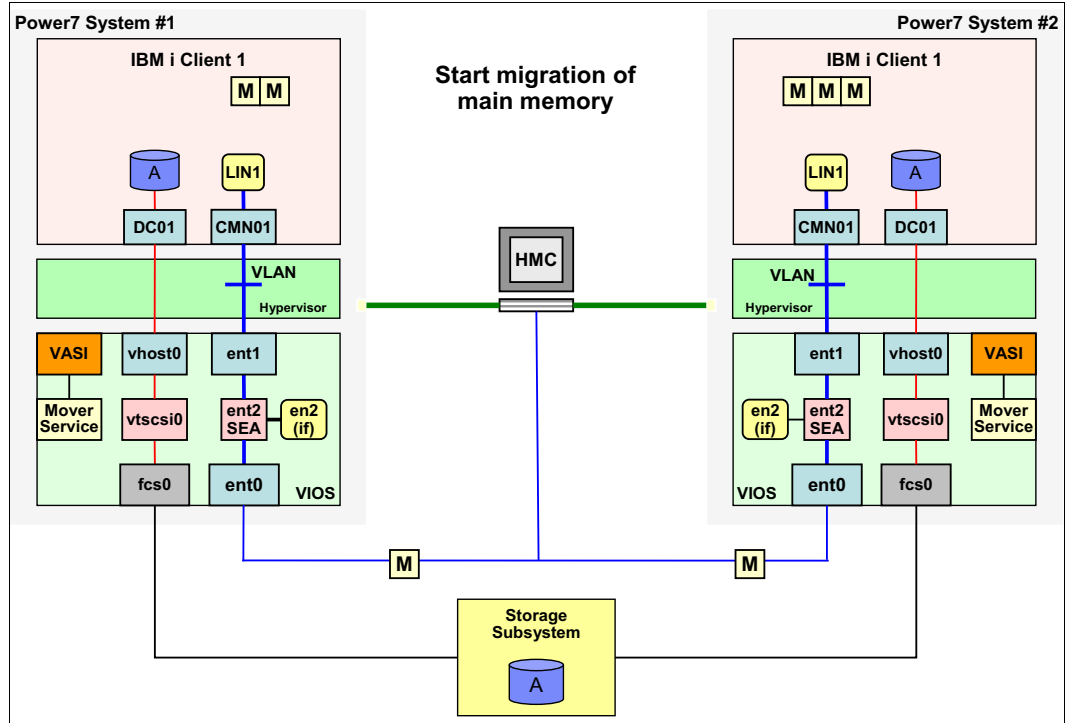

Figure 5-4 Live Partition Mobility, memory migration
- Main memory is migrated from System #1 to System #2, as shown in Figure 5-4. Users can still work on System #1 when this process is occurring. Whenever a page from main memory is changed on System #1 after it was moved to System #2, that page must be moved from System #1 to System #2 again. Therefore, it is considered a best practice to start a partition migration during times of low activity on the system.